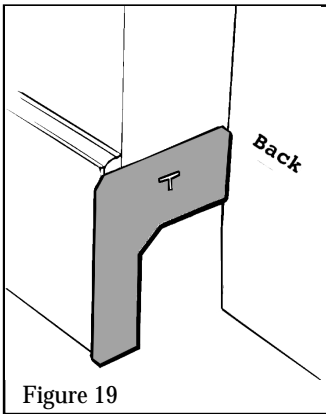

Figure 19
8.1 The fireplace surround will have to be cut away at the side where the duct connects to the appliance. A template is supplied to aid accurate cutting. It will be simpler if the side is cut before assembling the top to the sides. Place the template against the surround side as shown in figure 19. Mark the shape of the opening on the surround. Cut the opening.